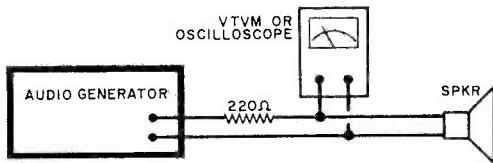

Fig. 1. Resonant frequency of speaker in free air is indicated by peak VTVM or oscilloscope reading.
**B**Y ADDING only two semiconductors to a miniature battery-powered toy car (or any other battery-driven toy), you can control its operation with a conventional flashlight at distances up to 15 feet or more. Two circuits are shown in Fig. 1, one for *pn*p power transistors (a), and one for *n*pn power transistors (b). Regardless of which type of power transistor you elect to use, operation is similar.
Fig. 1. Whether you use circuit (A) or (B) depends on the type of power transistor you have on hand, pnp or npn. Motor M, battery B1, and switch S1 are components within the toy itself.
The motor, battery, and on-off switch (S1) are an integral part of the toy. The easiest installation procedure is to break the lead from the battery terminal to the on-off switch and connect the power transistor as shown in either Fig. 1(a) or (b).
The first step in matching an enclosure to a specific speaker is to find the free air resonance of the speaker. A "no equipment" method will be explained later, but typically, an audio generator and an a.c. voltmeter (any VTVM) wired as shown in Fig. 1 are used. The output of a glide-tone frequency test record fed through a hi-fi amplifier may be substituted for the audio generator. A run from 200 Hz down to 20 Hz will locate speaker resonance by a peak in the voltage across the voice coil. (See Fig. 2.) Let's call this frequency " $f_r$ " to identify it.